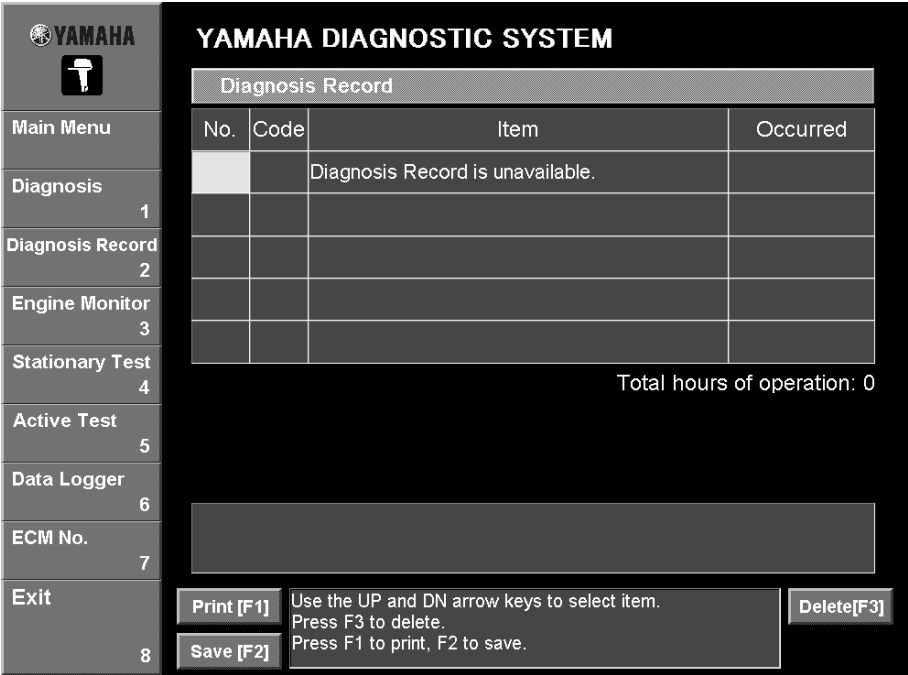
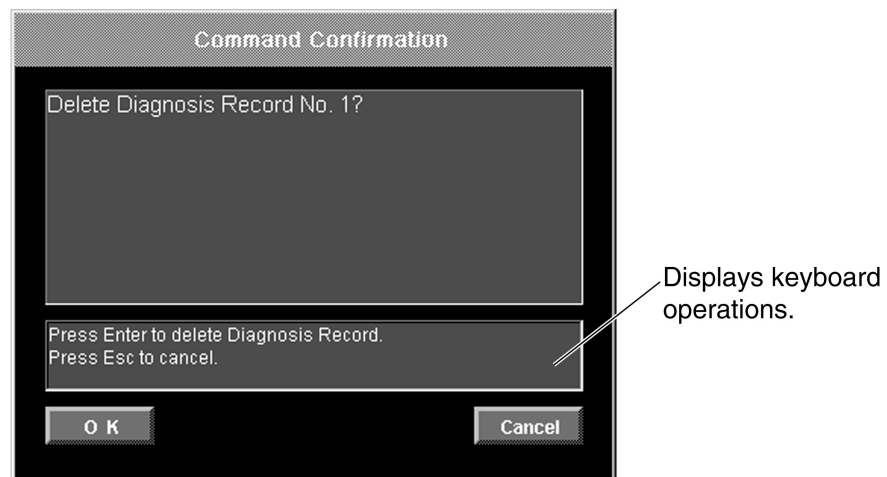

Fig. 17
Fig. 18
When a Diagnosis record is not available, “Diagnosis Record is unavailable” is displayed. (Fig. 17)
2. Click the **Delete [F3]** button or press the F3 key on your keyboard. (See fig. 17.) A confirmation message appears. (Fig. 18)
3. Click the **OK** button or press the Enter key on your keyboard. (Fig. 18) The selected item is deleted. To cancel deleting the item, click the **Cancel** button or press the Esc key on your keyboard.